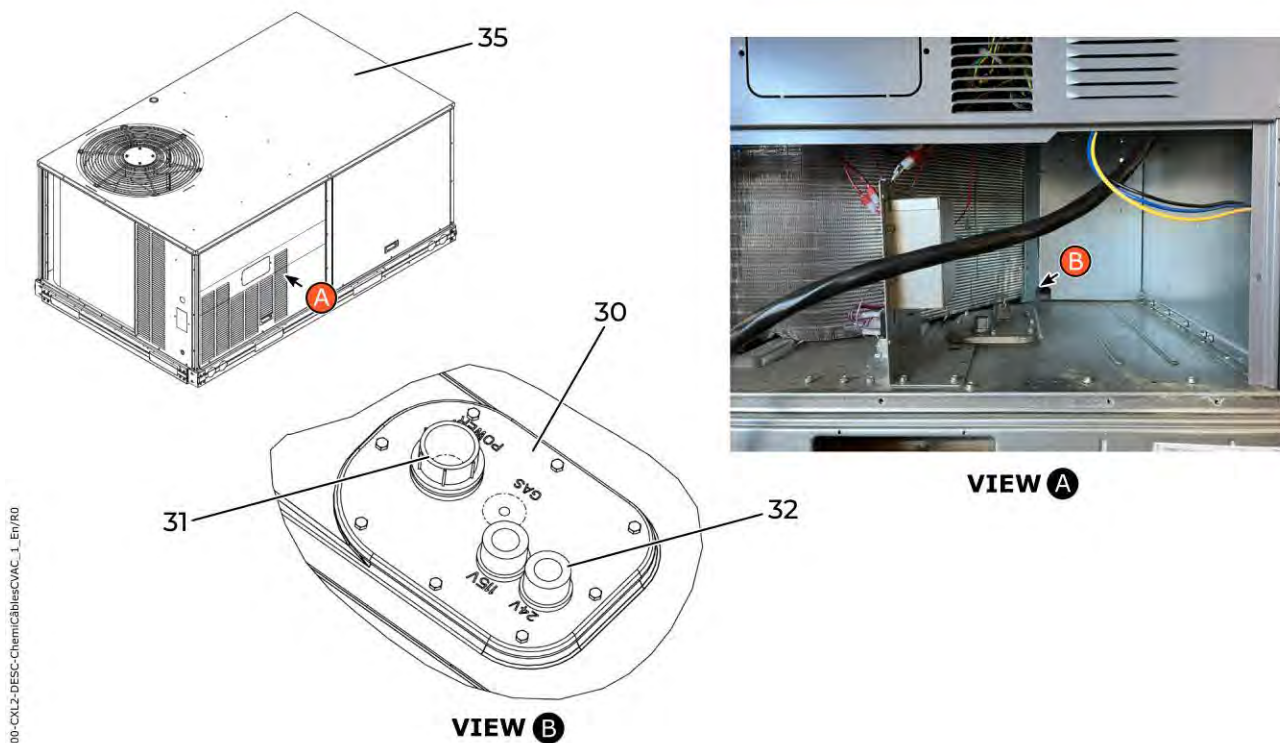

Figure 26 – Routing Harnesses in HVAC
- 42.2. Install the thru-the-bottom service connection kit **(30)** on the extrusion shown in **FIGURE 26**.